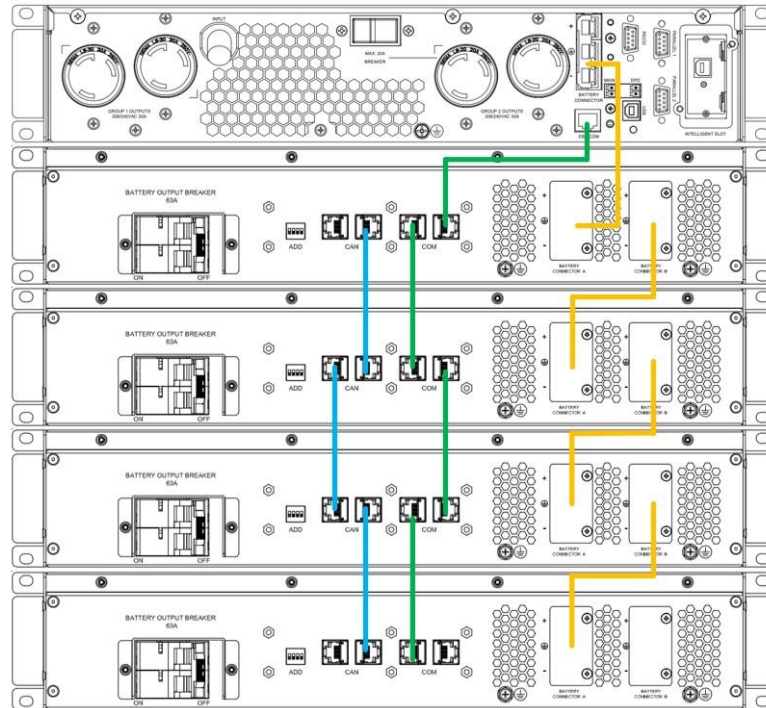

Figure 67a: Example 5kVA Lithium EBP System (4x UVPL12H EBPs shown)
- For 5-10kVA Lithium UPS models, reference Figure 67a.